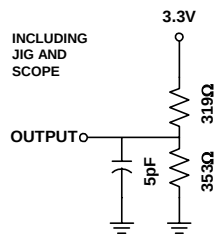

FIGURE 1B
5. Transition is measured $\pm 500\text{mV}$ from steady state with $\text{CL}=5\text{pF}$ as shown in Figure 1B. The parameter is guaranteed but not 100% tested.
10. Transition is measured 500mV from steady state with C_L = 5pF as shown in Figure 1B. The parameter is guaranteed but not 100% tested.